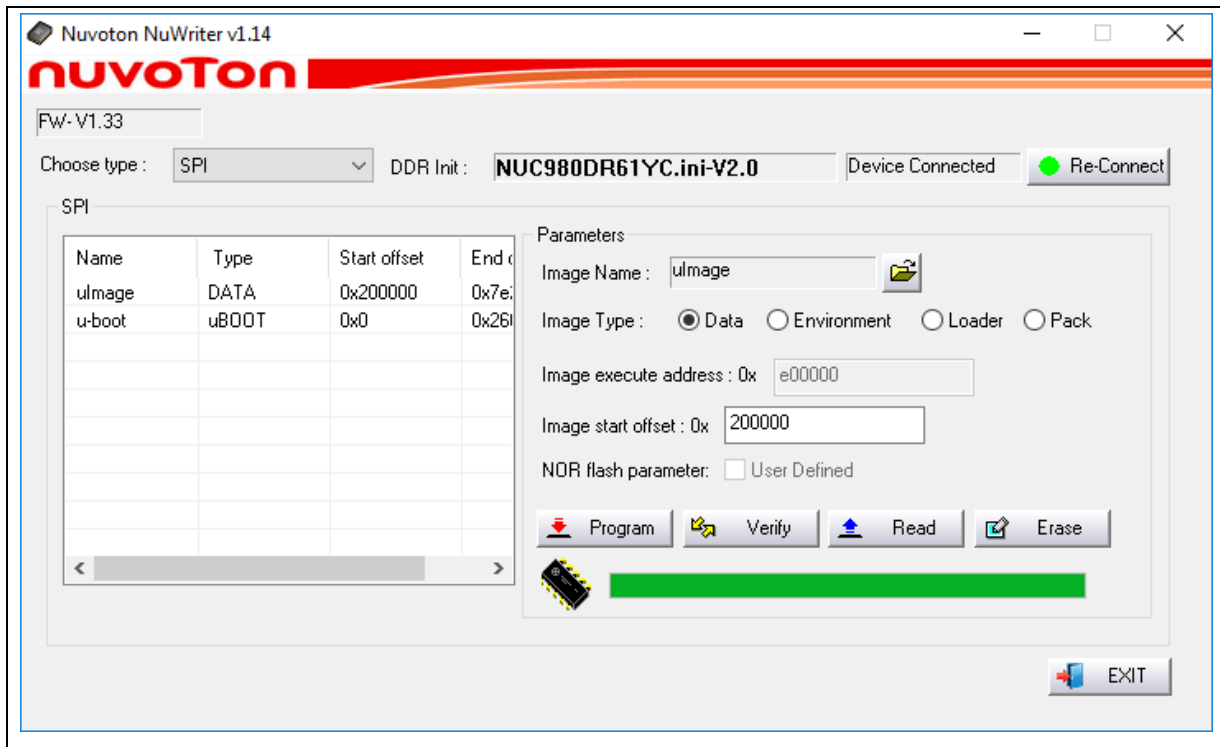

Figure 4-7 Program uimage
5. According to Figure 4-7, following the steps to program kernel image: